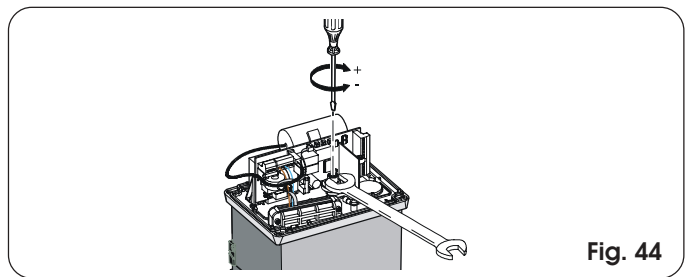

Fig. 44
- 2) Keep the motor shaft locked with a wrench and turn the clutch adjustment screw with an Allen wrench or screwdriver as shown in Fig. 44.